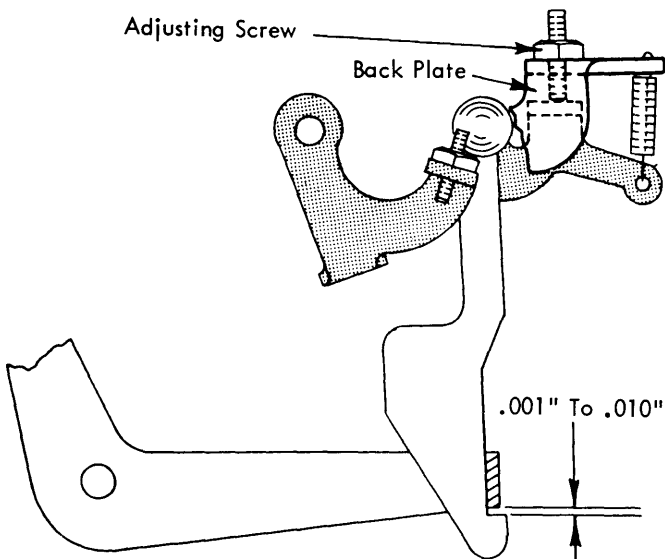

FIGURE 130. Carrier Return Latch Height Adjustment (721)
1. Carrier Return Latch Height (721 only) - With the carrier return/index cam at rest, adjust the carrier return latch height by the adjusting screw on the backplate (Fig. 130) so that the latch will pass under the cam follower by .001" to .010" when it is released to the rear.